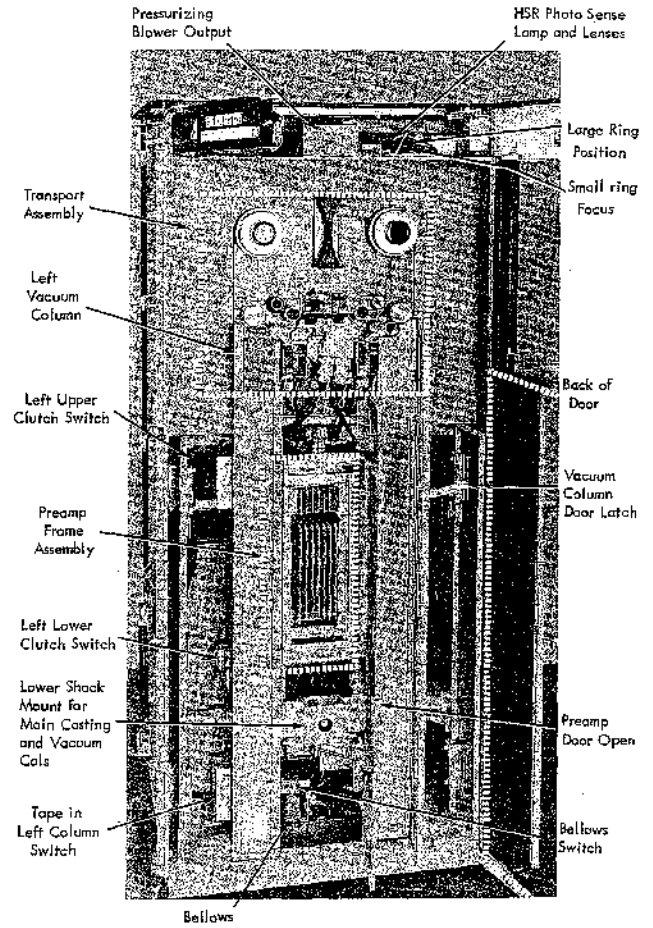

Figure 3-15. Front View, Tape Unit
See Figure 3-15. After removing old cable from negator drum (taking care not to damage spring), mount new sliding glass cable as follows:
Refer to Figure 3-15. After removing old cable from negator drum and mounting new cable, proceed as follows:
3.3.1 Vacuum Columns (Figure 3-15)
Clean inside surfaces with a lint-free cloth and approved cleaning fluid. Remove all bits of tape and other dirt from the screen at the bottom of the columns. See Figure 3-15.